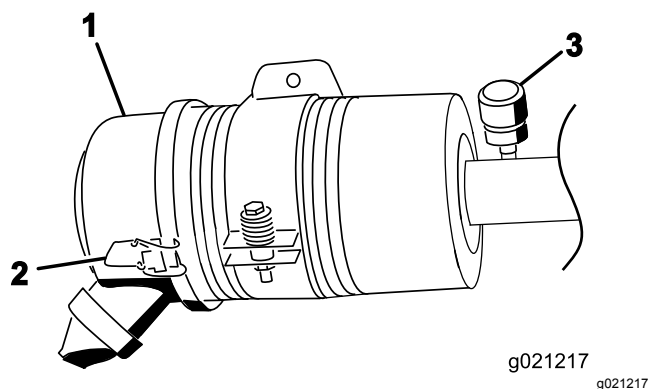

Figure 57
Service the air cleaner filter only when the service indicator (Figure 57) requires it. Changing the air filter before it is necessary only increases the chance of dirt entering the engine when the filter is removed.
1. Release the latches securing the air cleaner cover to the air cleaner body (Figure 57).